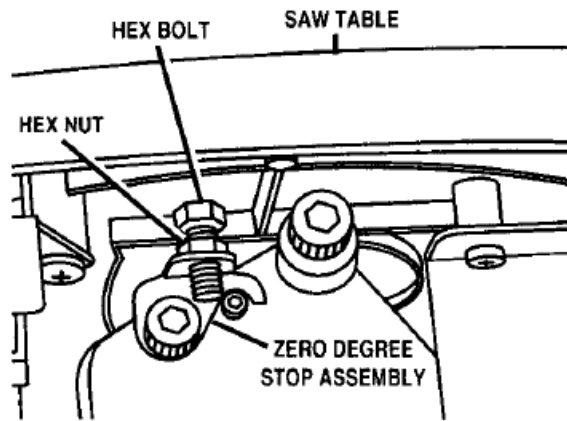

Fig. 11
- To access the zero-degree stop, loosen the table lock knob, and tilt the table with the right side down. Just under the front of the saw table is the zero-degree stop. See Figure 11.